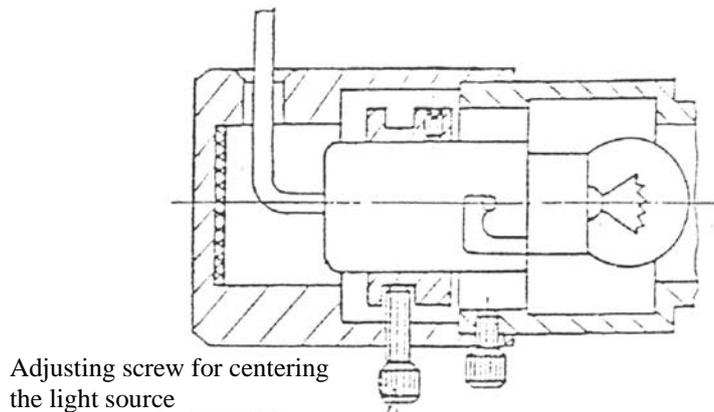

Figure 21
- ⌘ The central position of the light source will directly affect the image quality of the indentation. If the image is fuzzy or unevenly lighted, you need to center the light source. Carefully adjust the three screws to align the bulb center with that of the light source. (Figure 21).